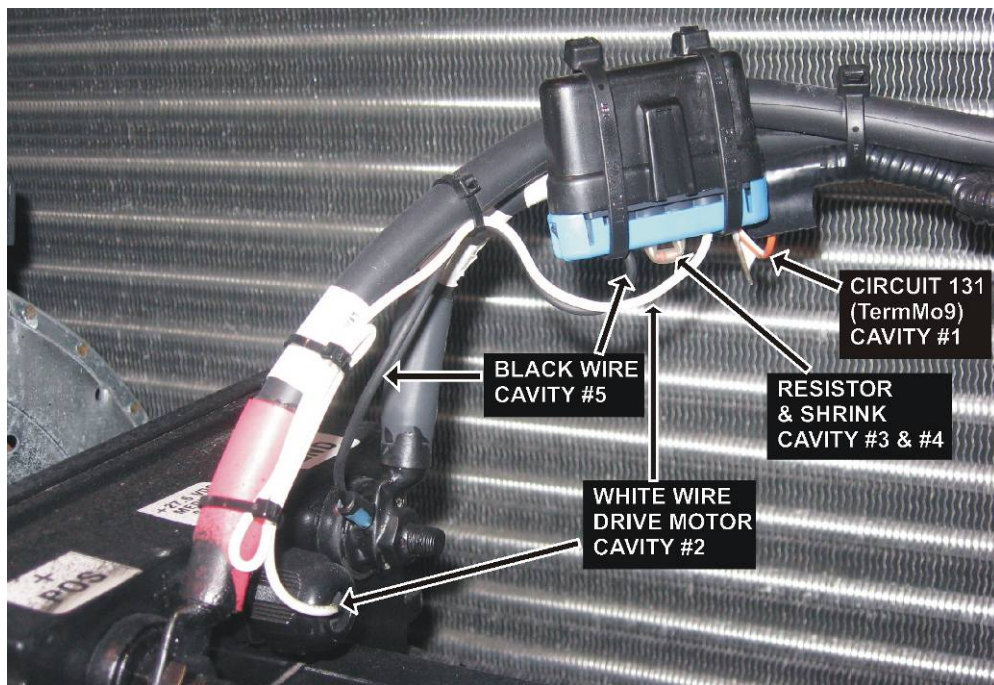

FIGURE 4
7. Perform connections as per figure 4. Insert plug 561783 into cavity #6.